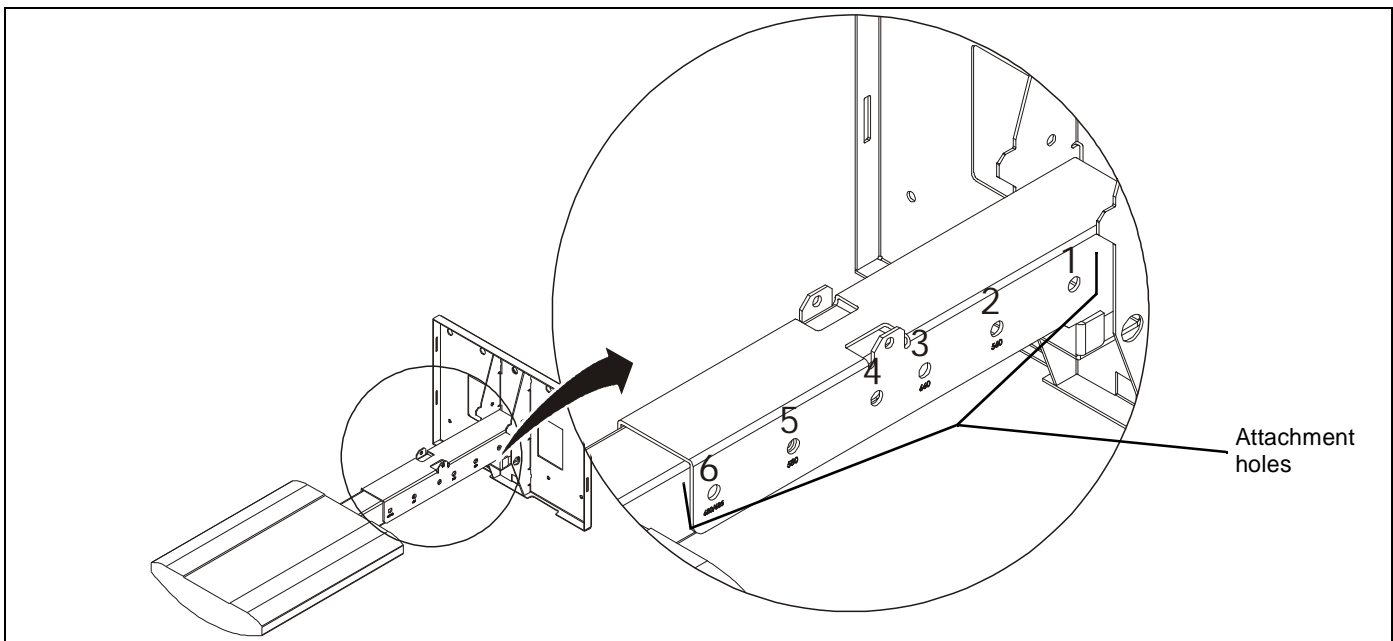

Figure 3
8. Adjust SMART Board projector arm to correct location according to projector model and SMART Board model, and following information in Table 2. (See Figure 3)